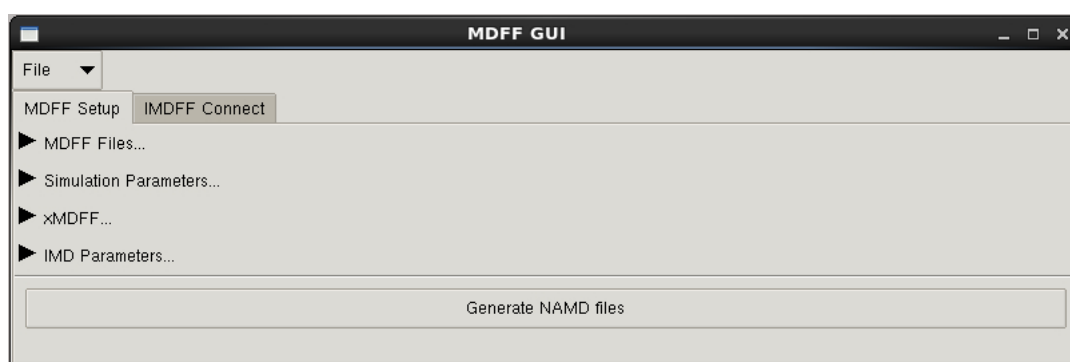

Figure 18: The Generate NAMD files button creates all of the files needed for MDFF and saves them in your working directory
- 3 With all of the parameters now set, you should click the 'Generate NAMD files' button at the bottom of the MDFF Setup tab, seen in Fig. 18. This button will automatically generate all the files you need to begin your simulation and save them in your selected working directory.